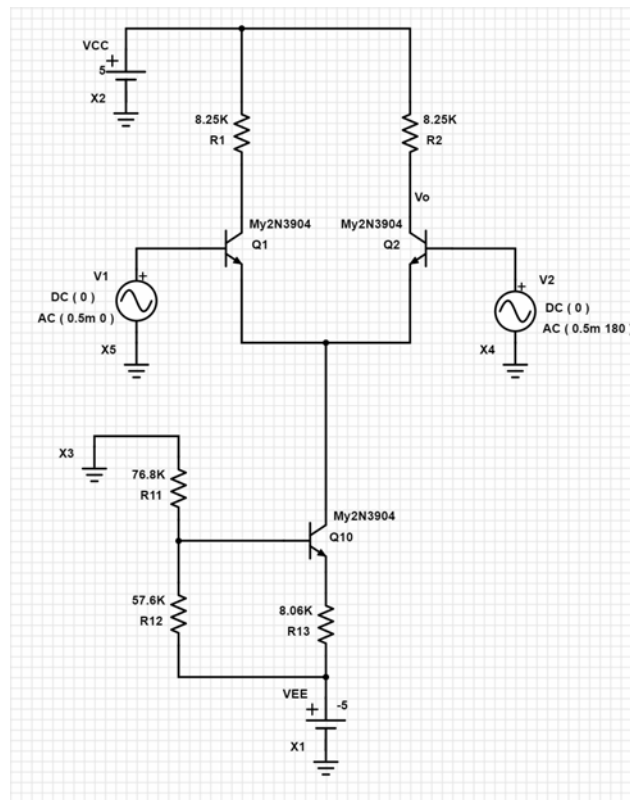

Fig. 6 Schematic diagram of the differential amplifier for differential-mode analysis
- 3.4 We want to analyze its characteristics for DC differential-mode signal V_{DM} , followed by the AC common-mode signal v_d . Here the voltage sources V_1 and V_2 in Fig. 6 provide both DC and AC voltages to the inputs of the differential amplifier.
- 3.6 Set the DC values of V_1 and $V_2 = 0$ V, and their AC amplitude 1 mV. For differential mode signal, set the phases of the AC signal V_1 and V_2 to be 0° and 180° , respectively, as shown in Fig. 6. In this setting, the differential-mode signal $v_{id} = V_1 - V_2 = 1 \text{ mV} - (-1 \text{ mV}) = 2 \text{ mV}$. Conduct AC analysis for V_o in DEC with start frequency = 100 Hz, stop frequency = 1 MHz, and 101 frequency points per decade. Choose REAL for magnitude unit and degree (DEG) for phase unit.
- 3.12 Based on Fig. 6, construct the measurement setup for the differential amplifier. Use $V_+ = 5V$ for V_{CC} , $V_- = -5V$ for V_{EE} , Wavegen 1 (W1) for V_1 and Wavegen 2 (W2) for V_2 . Connect GNDV+, GNDV-, GNDW1, and GNDW2 to a common ground line.